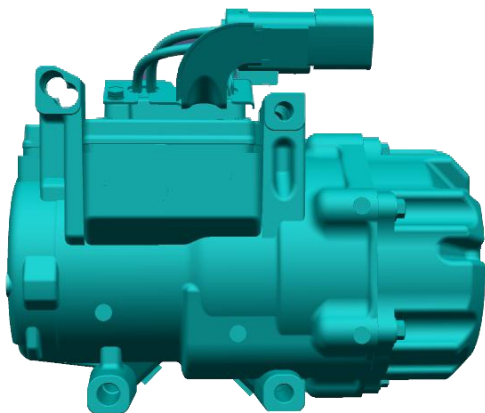
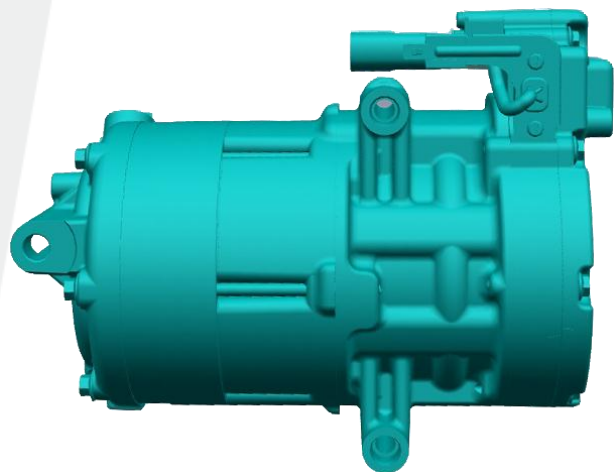

Figure 1 (Denso compressor, TPN 6007380 )
Figure 2 (Halla compressor, TPN 1028398)
**NOTE:** This procedure only applies to the Denso compressor (Figure 1). It does not apply to the Halla compressor (Figure 2).